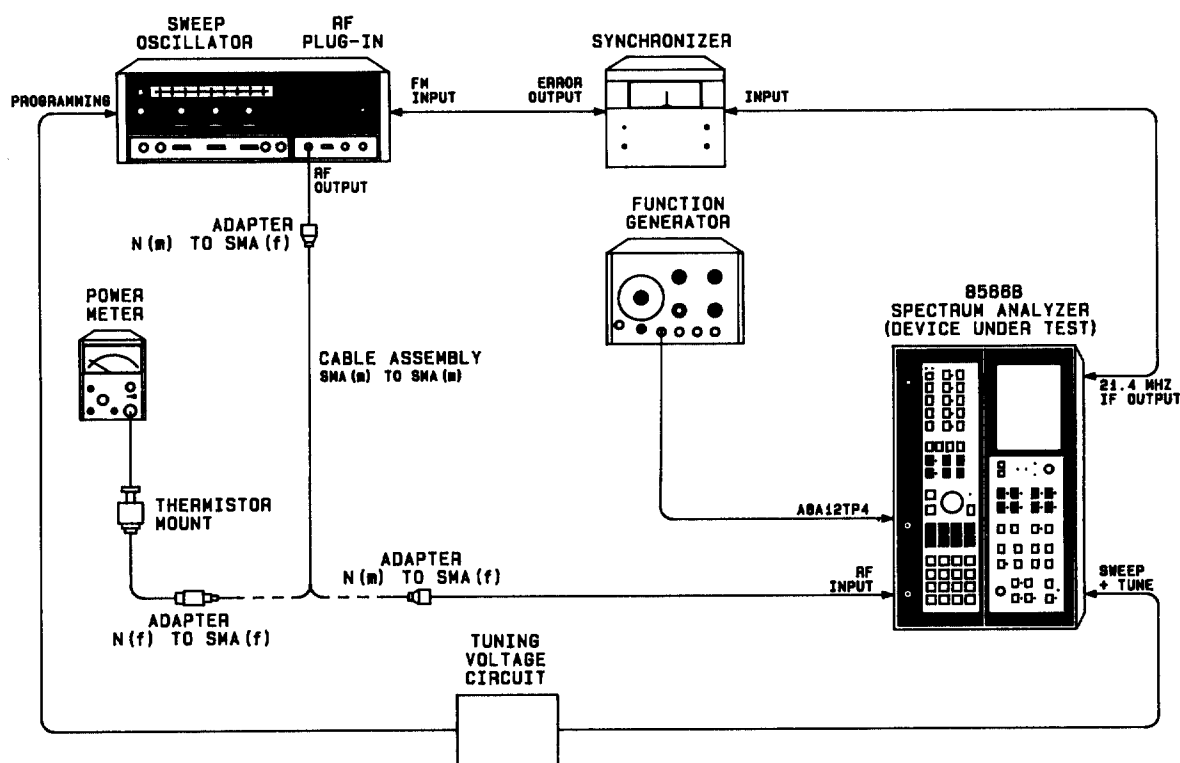

FIGURE 70. FREQUENCY RESPONSE ADJUSTMENTS SETUP (2.0 - 18.6 GHz)
20. Replace HP 86222A RF Plug-In with HP 86290B RF Plug-In (2 - 22 GHz) and connect equipment as shown in Figure 70, with power meter/mount connected to sweep oscillator without attenuator.